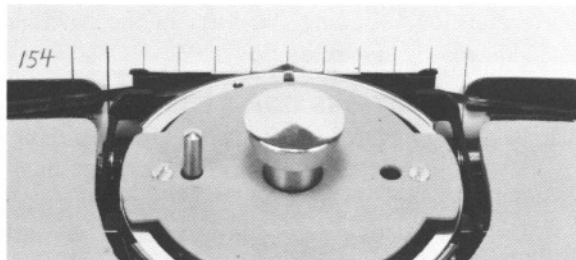

Figure 71
6. Align point of ribbon shield with any rule (Figure 71). Roll feed rolls up and down about 4 inches, watching relationship of line to point of shield while rolling. If line moves diagonally (appears to wave) adjust paper and re-test until line follows point of shield. Use other hand to take up play in paper by winding wooden roller in opposite direction of feed rolls. This prevents creasing the paper.